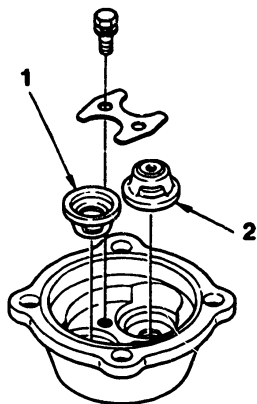

Fig. 84 Check valve mounting
- 1. Attach the check valves for the suction and supply ports in opposing directions as shown in Fig. 84 even though they are of the same type.**
After assembling the injection pump, it should be adjusted to satisfy the engine requirements using an injection pump test bench. The attachments and tools shown in Fig. 84 are necessary for the adjustments.